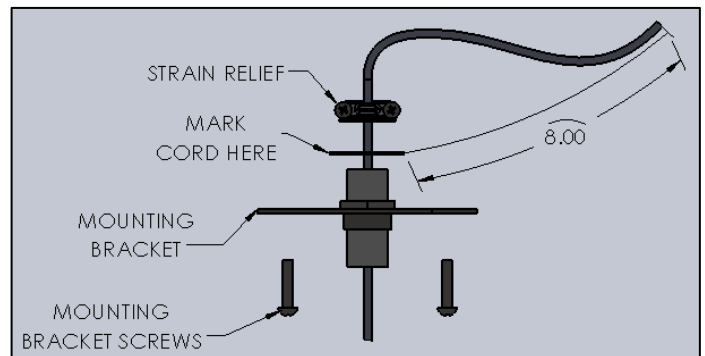

FIG. 21– CORD INSTALLATION TO J-BOX
5. Mark CORD with marker above the all-thread and Trim off excess cord leaving minimum of 8" past the Top of the all-thread as shown below in FIG. 21.